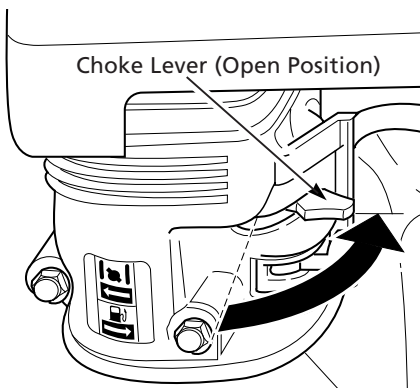
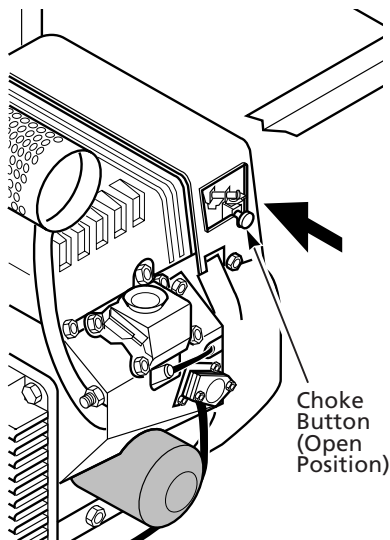

Figure 28 – Choke Lever Opened
Figure 29– Choke Lever Opened (Model 3WY47 Only)
5. As engine warms up, slowly move choke lever fully to the right (See Figure 28). This opens the choke. On Model 3WY47, the choke will automatically open (See Figure 29).